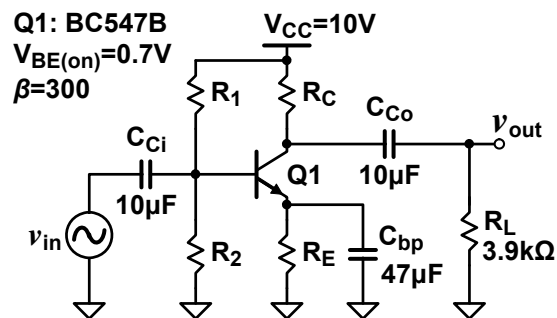

Figure 1: Common emitter amplifier
a) Calculate the values of R_C , R_E , R_1 and R_2 in Figure 1 that will be used in the procedure according to the following requirements:
1.a) Build the circuit given in Figure 1 using the values calculated in the preliminary work. Set the input voltage to **20 mV_{peak}**. Record the values of v_{in} , v_{out} and calculate $A_V = 20 \log|v_{out}/v_{in}|$, sweeping the input frequency from **50 Hz** to **100 kHz**.